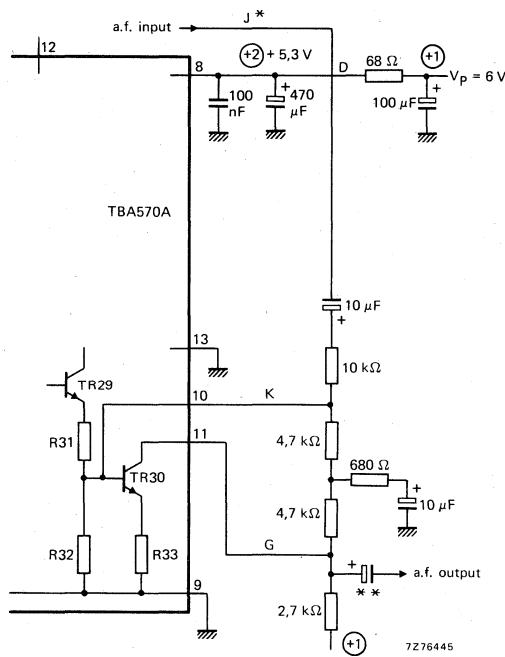

Fig. 4 Post amplifier for
**Post-amplifier (see Fig. 4 on page 7)**